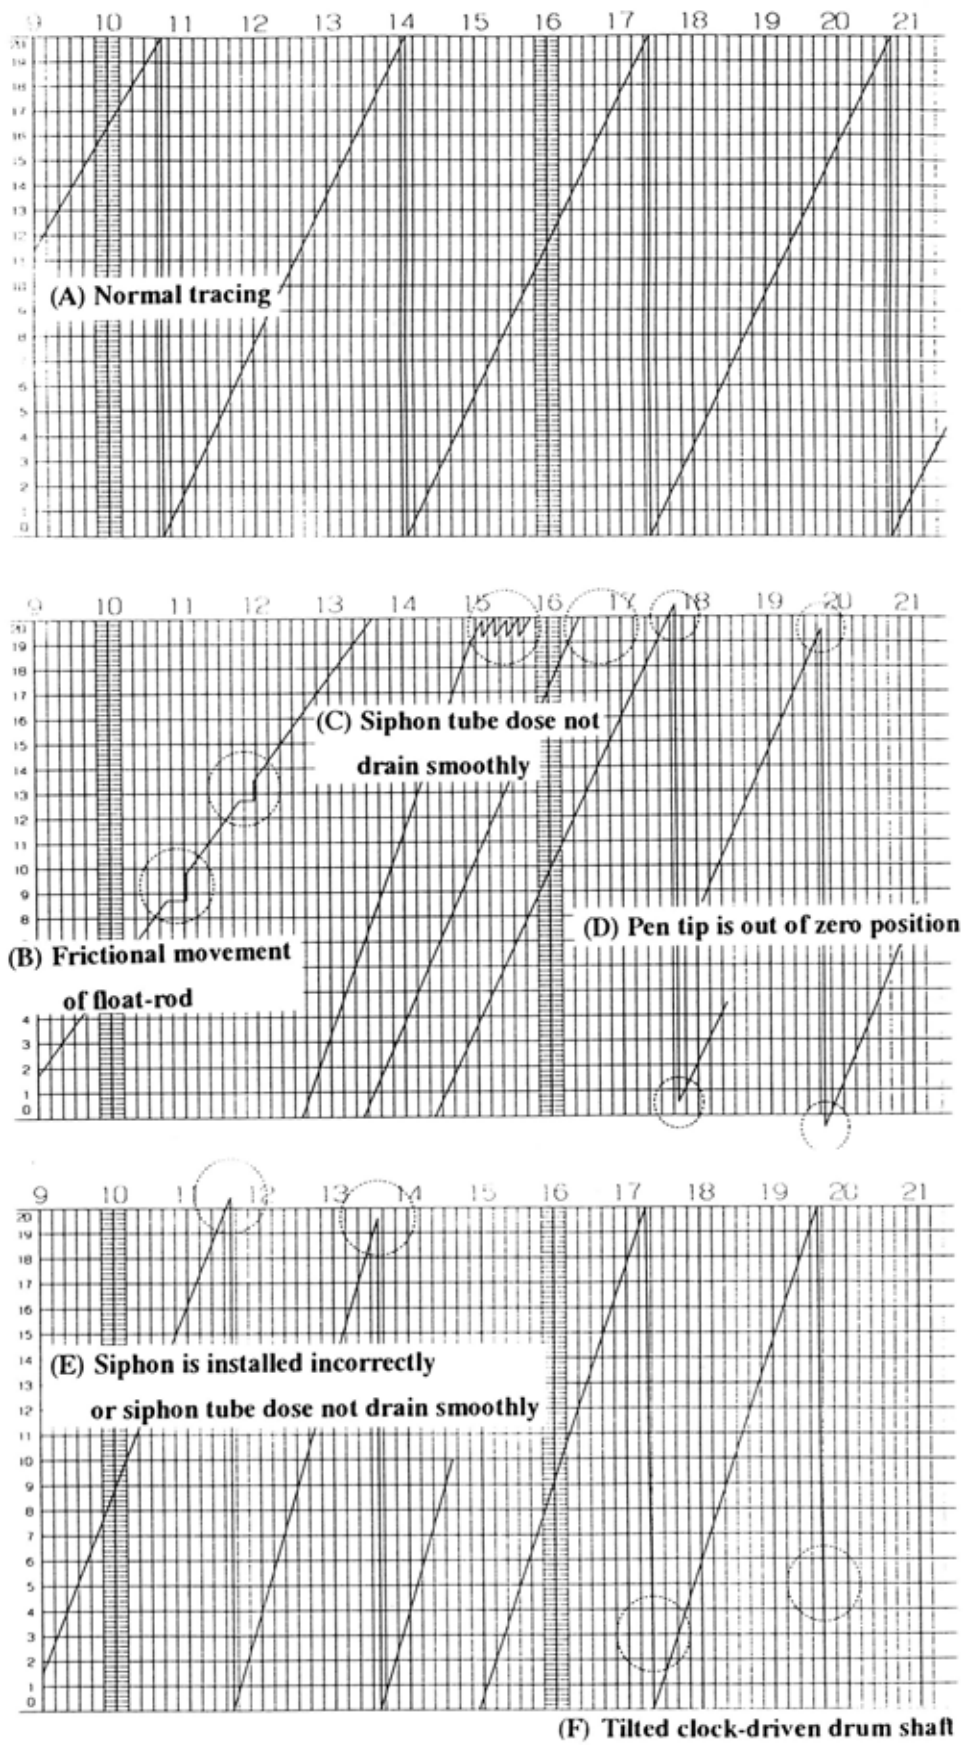

Figure 6.16 Example of a siphon rain gauge record
- c. Drip water into the receiver funnel and obtain a tracing on the recording paper. The dripping speed should be such that the daily clock movement forms an angle of about 45 degrees to the vertical axis on the recording paper (representing a rainfall intensity of 2 to 5 mm/h). An example of normal tracing is shown in Figure 6.16 (A), while (B) to (F) are examples of undesirable tracing. In particular, that in (F) is an example of frictional movement. Observe the tracing carefully to identify even slight signs of friction.